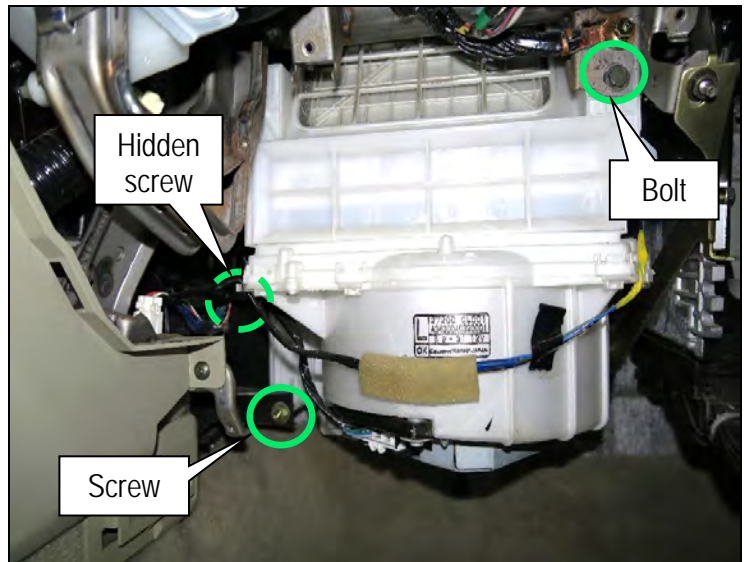

Figure 10
- a. Remove the two (2) screws from the LH side of the blower case and one (1) bolt from the RH side of the blower case (Figure 10).
**HINT:** The top LH blower case screw is not visible in Figure 10.